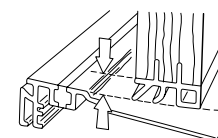

Fig. 9
- Make sure the door sweep contacts the threshold evenly. You can adjust the threshold contact by adjusting the squareness of the door unit or, if an adjustable threshold is used, by turning the adjustment screws on the threshold (Fig. 9).